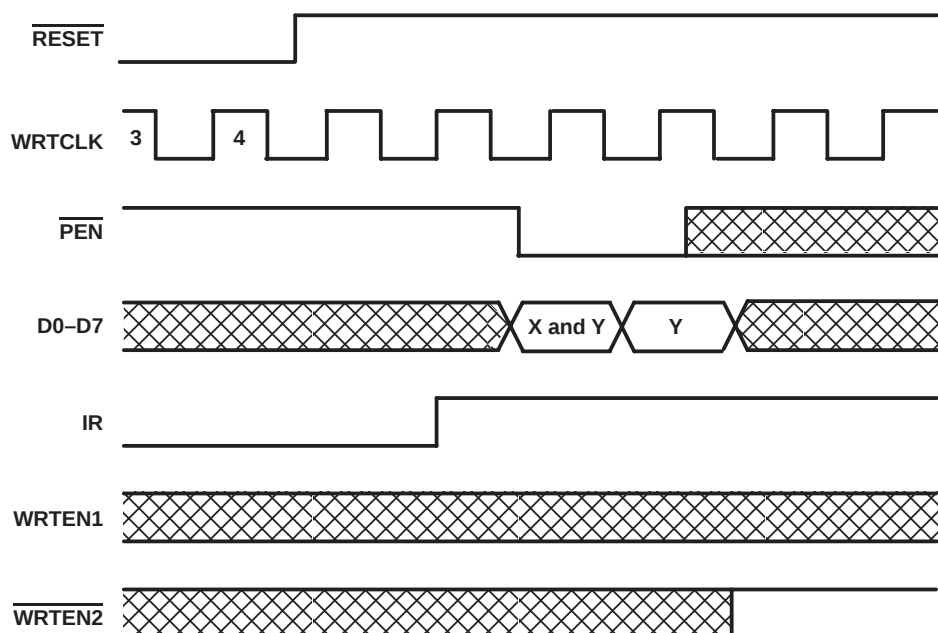

Figure 4. Programming X and Y Separately
Program enable ($\overline{PEN}$) should be held high throughout the reset cycle. $\overline{PEN}$ can be brought low only when IR is high and WRTCLK is low. On the following low-to-high transition of WRTCLK, the binary value on D0–D7 is stored as the almost-empty offset value (X) and the almost-full offset value (Y). Holding $\overline{PEN}$ low for another low-to-high transition of WRTCLK reprograms Y to the binary value on D0–D7 at the time of the second WRTCLK low-to-high transition. When the offsets are being programmed, writes to the FIFO memory are disabled, regardless of the state of the write enables (WRTEN1, WRTEN2). A maximum value of 255 can be programmed for either X or Y (see Figure 4). To use the default values of $X = Y = 64$, $\overline{PEN}$ must be held high.